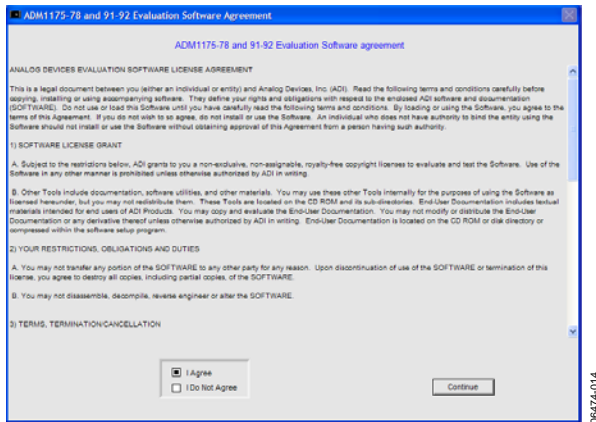

Figure 14. Software Agreement
- Once launched, the **Evaluation Software Agreement** window appears (see Figure 14). Choose **I Agree** to concur with the conditions, then select **Continue**.